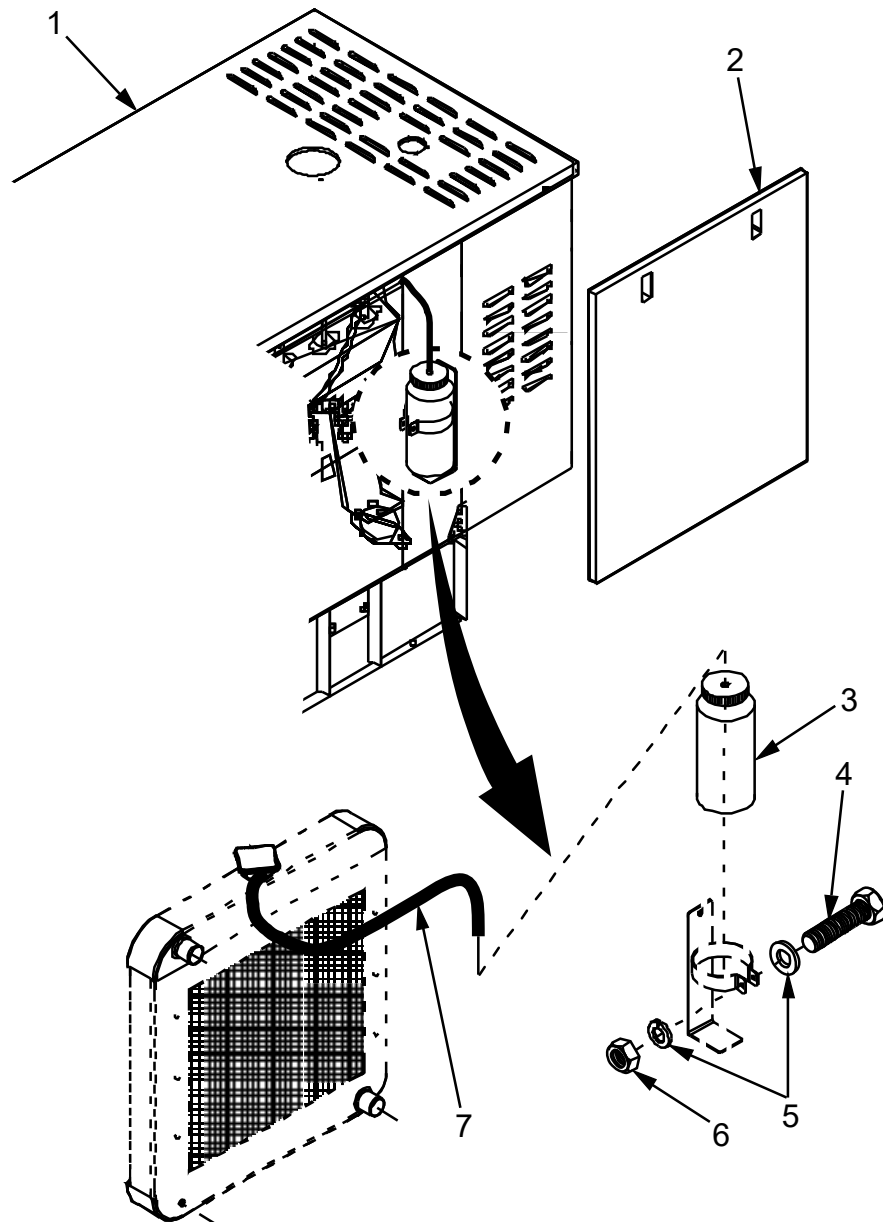

Figure 2. Engine Coolant Reservoir Bottle - Replace.
1. Verify that Genset (Figure 2, Item 1) has been shut down, engine is cool, and that BATTERY SWITCH is set to OFF (WP 0005, Genset Shut Down Procedure).
2. Remove the rear access panel (Figure 2, Item 2) on Genset (Figure 2, Item 1) and set aside.
3. Disconnect battery ground cable (black) (WP 0056, Figure 2, Item 26) from battery.
4. Disconnect overflow tube (Figure 2, Item 7) from coolant reservoir bottle (Figure 2, Item 3).
5. Loosen, but do not remove, bolt (Figure 2, Item 4), nut (Figure 2, Item 6), and two flat washers (Figure 2, Item 5).
6. Remove coolant reservoir bottle (Figure 2, Item 3) and properly dispose of reservoir bottle (Figure 2, Item 3) and contents.
1. Insert coolant reservoir bottle (Figure 2, Item 3) and secure using bolt (Figure 2, Item 4), nut (Figure 2, Item 6), and two flat washers (Figure 2, Item 5).
2. Connect overflow tube (Figure 2, Item 7) to coolant reservoir bottle (Figure 2, Item 3).
3. Add coolant mix as necessary to bring the coolant reservoir bottle (Figure 2, Item 3) 1/3 to 1/2 full.
4. Connect battery ground cable (black) (WP 0056, Figure 2, Item 26) to battery.
5. Start Genset (Figure 2, Item 1) in accordance with WP 0005, Genset Start Procedure. Run for 15 minutes until operational temperature and observe coolant level in reservoir bottle (Figure 2, Item 3). If necessary add coolant mix.
6. Replace rear access panel (Figure 2, Item 2) on Genset (Figure 2, Item 1).
4. Disconnect battery ground cable (black) (WP 0056, Figure 2, Item 26) from battery.
7. Connect battery ground cable (black) (WP 0056, Figure 2, Item 26) to battery.